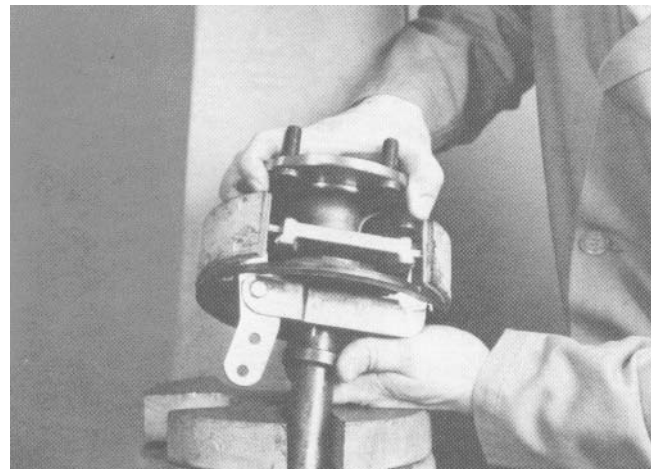

Figure 15
3. Slide a new bearing retainer on the axle shaft. Support the shaft and retainer in a suitable press and press the bearing retainer firmly against the bearing (Fig. 15).